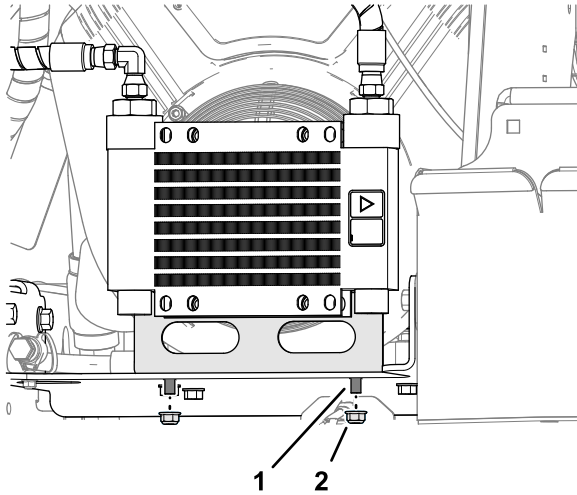

Figure 103
1. Remove the 2 flange locknuts that secure the hydraulic-oil cooler to the machine, and lift the cooler (Figure 103).
3. Assemble the hydraulic-oil cooler to the machine with the 2 carriage bolts and 2 flange locknuts (Figure 103).